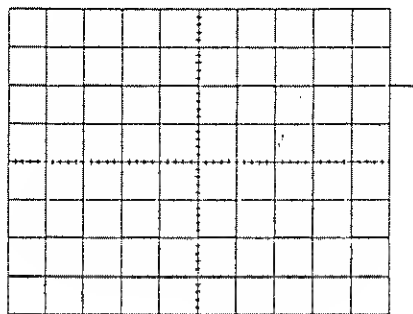

Figure 4-4
- 5) Set the AC-GND-DC switch in the AC state. A waveform as shown in Figure 4-4 will be displayed on the CRT screen.